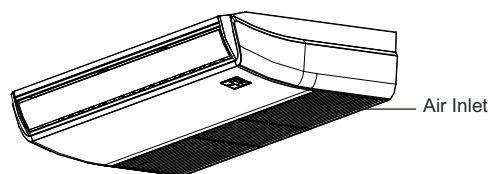

Fig.6-1
- Open the air intake with the screwdriver or something like that. (Refer to Fig.6-1)